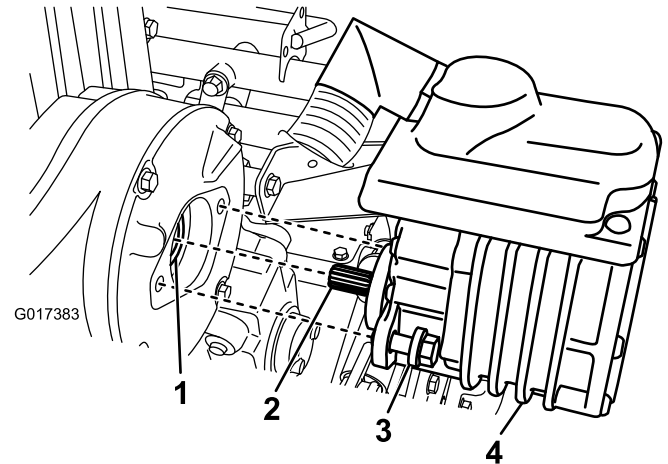

Figure 35
2. Remove the 2 bolts securing the motor to the transmission case (Figure 35).
4. Add one to two pumps of grease from a grease gun to the female coupler in the transmission case (Figure 35).